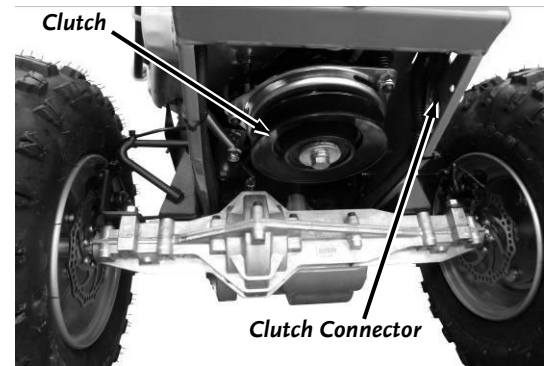

Figure 33
1. Remove the Brush Deck (See section "Removing the Brush Deck" on page 17) and tip the machine back on its handlebars to access the Clutch Connector under the machine (**Figure 33**).